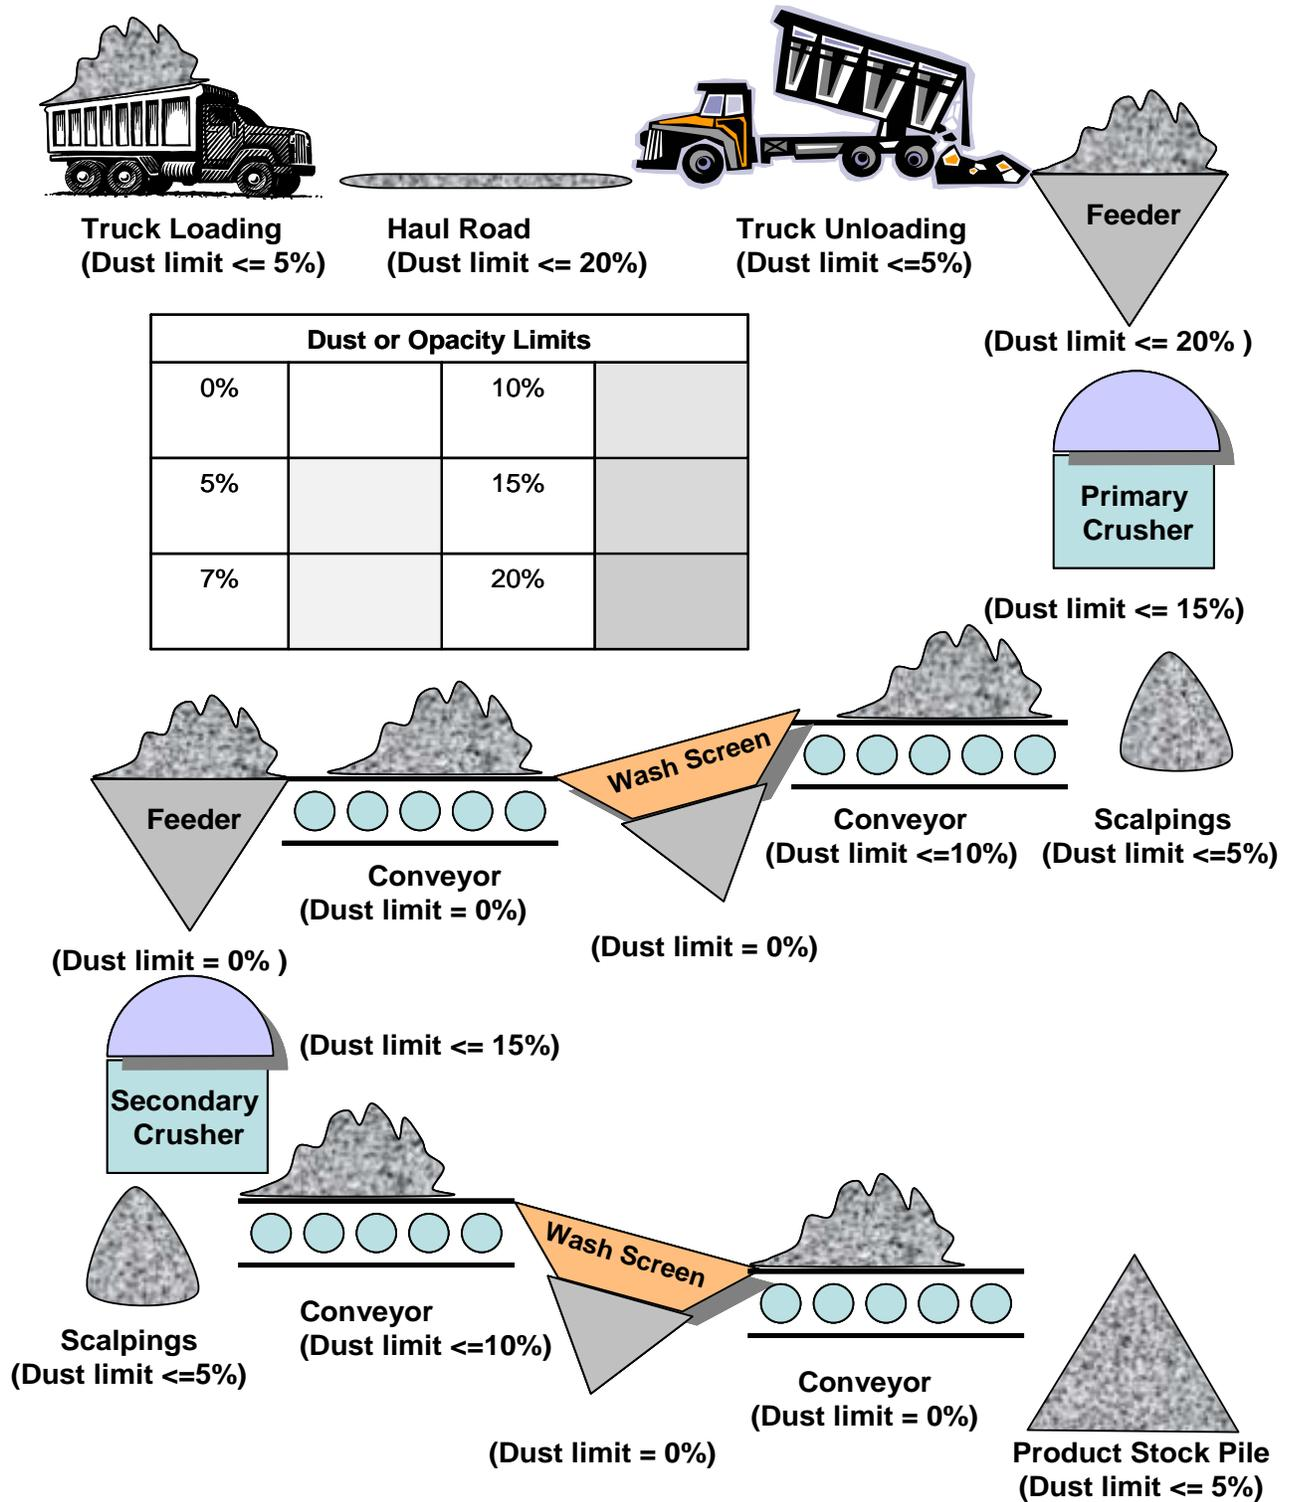

Figure 1-3: Complying with the Dust or Opacity Limits in the Nonmetallic Mineral Crushing General Air Permit
- Complete the performance test demonstrating that the crushing facility meets the opacity limits stated in Table 1-1, Figure 1-3, and in the Special Conditions portion of the General Permit to Install, Section 1.2.